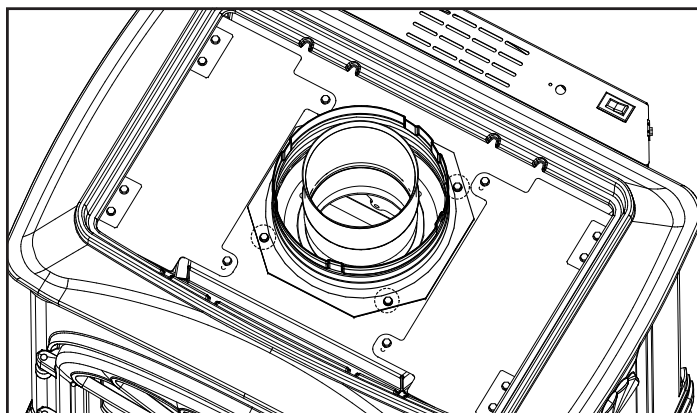

Figure 6.2
6. Place rear access plate and gasket over top vent and attach with the four screws removed in Figure 6.2.